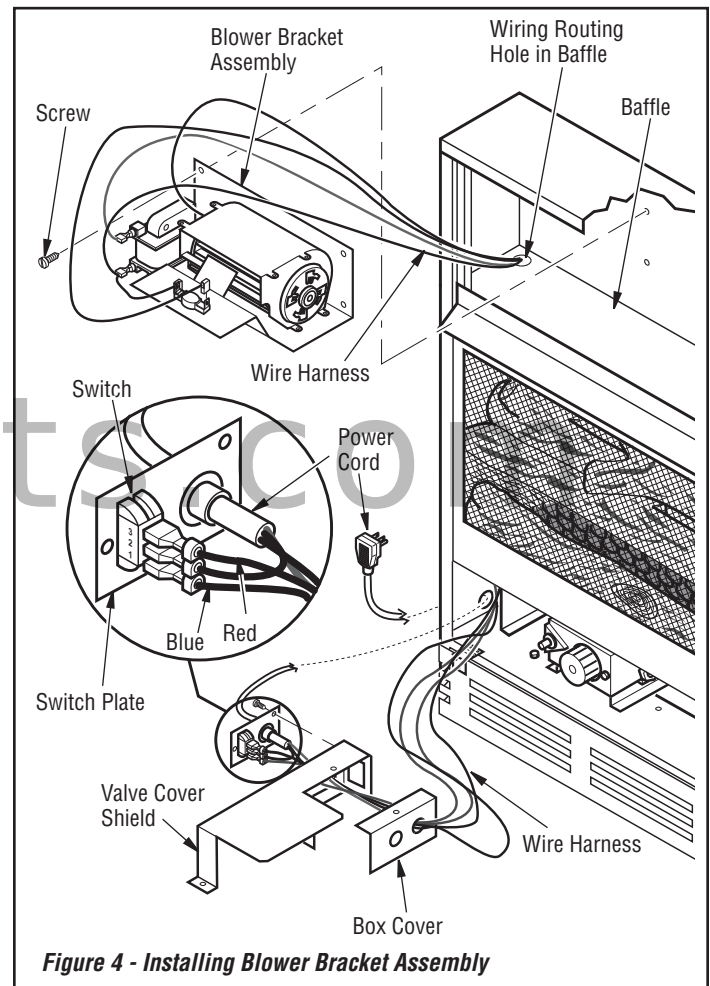
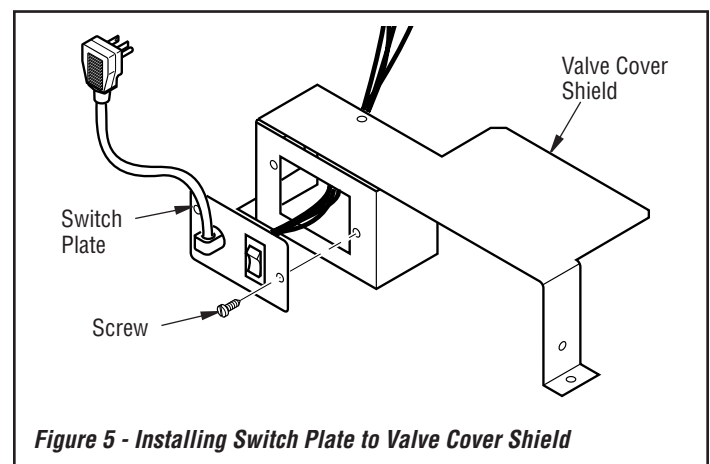

Figure 4 - Installing Blower Bracket Assembly
Figure 5 - Installing Switch Plate to Valve Cover Shield
3. In top of heater cabinet, locate four mounting holes on outer casing. Align these four holes with those on blower bracket assembly. Attach blower bracket assembly to outer casing with (4) #10 screws provided (see **Figure 4**).
4. Route 4 wire harness through hole in left side of baffle. Pull wire harness through lower opening above where valve shield was removed (see **Figure 4**).
5. Insert wire harness into one of the round holes in rear of valve cover shield and through rectangular hole in front of shield (see **Figure 4**).
6. Note the terminal numbers on back of AUTO/OFF/ON switch. They are numbered 1, 2, and 3 (see **Figure 4**).
9. Install switch plate on valve cover shield with (2) #10 screws provided (see **Figure 5**). Reinstall valve cover shield. Route power cord out of cabinet by inserting it through bushing on outer casing (see **Figure 4**). Plug blower power cord into 120-Volt grounded power supply and test operation.